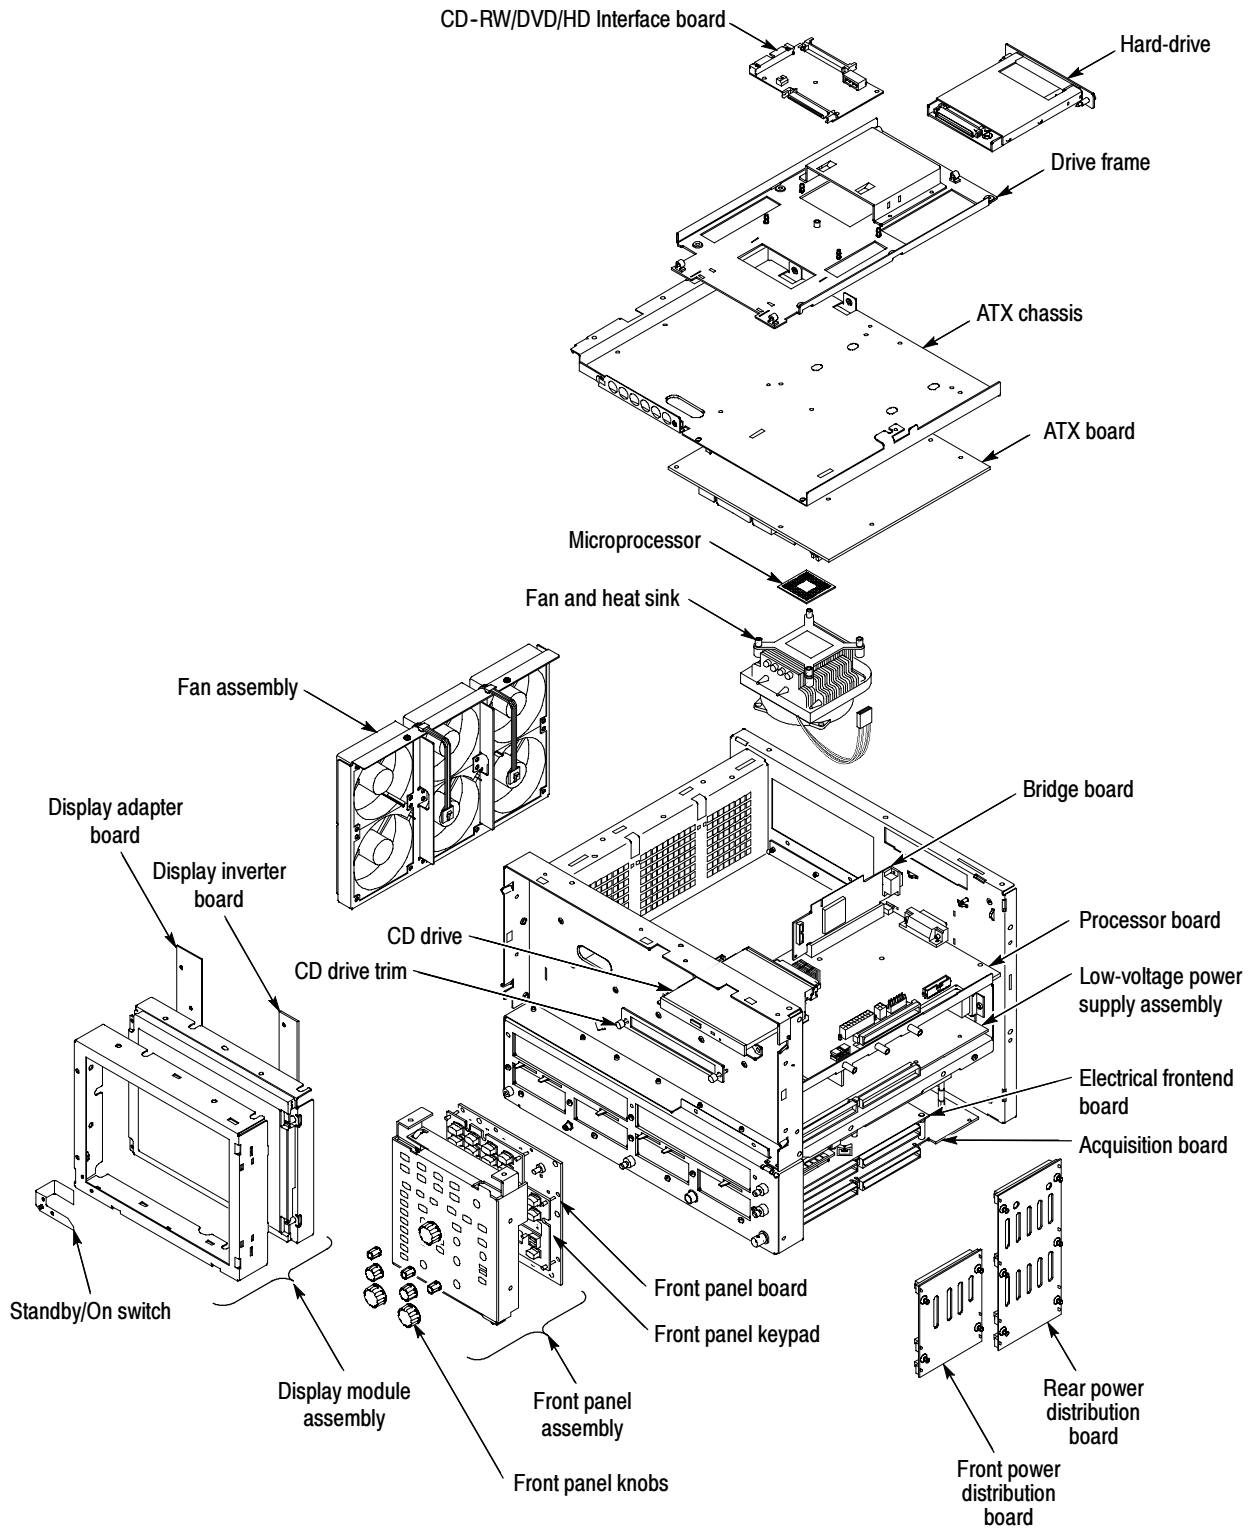

Figure 5: Internal modules
1. *Locate module to be removed:* Locate the Hard Disk Drive in the locator diagram *Internal Modules*, Figure 5, page 16.
1. *Locate module to be removed:* Locate the CD-RW/DVD drive in the locator diagram *Internal Modules*, Figure 5, page 16.
1. *Locate module to be removed:* Locate the CD-RW/DVD and hard drive mounting frame in the locator diagram *Internal Modules*, Figure 5, page 16.
- 1.** *Locate module to be removed:* Locate the ATX board assembly in the locator diagram *Internal Modules*, Figure 5, page 16.